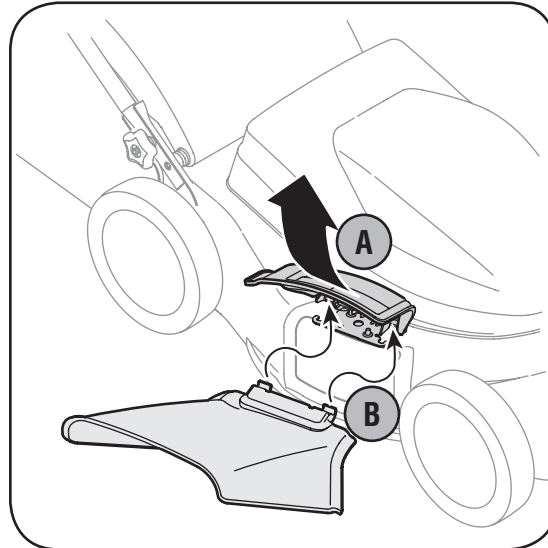

Figure 3-6: Converting to side discharge.
- b. Slide two hooks of side discharge chute under the hinge pin on the mulching plug assembly and lower the side mulching plug. See Figure 3-6.